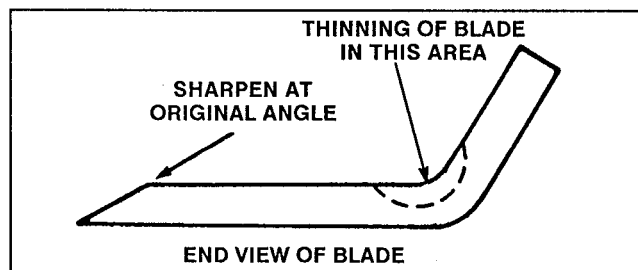

Figure 28
7. Using a file, sharpen cutting edge at both ends of the blade (Fig. 28).
Check cutter blade every time rider is tipped on end. If blade bolt holding blade is loose, tighten it to 45-60 ft-lb (61-81 N·m). If blade or sail (Fig. 28) at end of blade is worn, eroded or cracked, replace the blade. Replace the blade if it is bent or out-of-balance. Always use a genuine TORO replacement blade to ensure safety and best performance. NEVER USE A WILL-FIT REPLACEMENT BLADE.